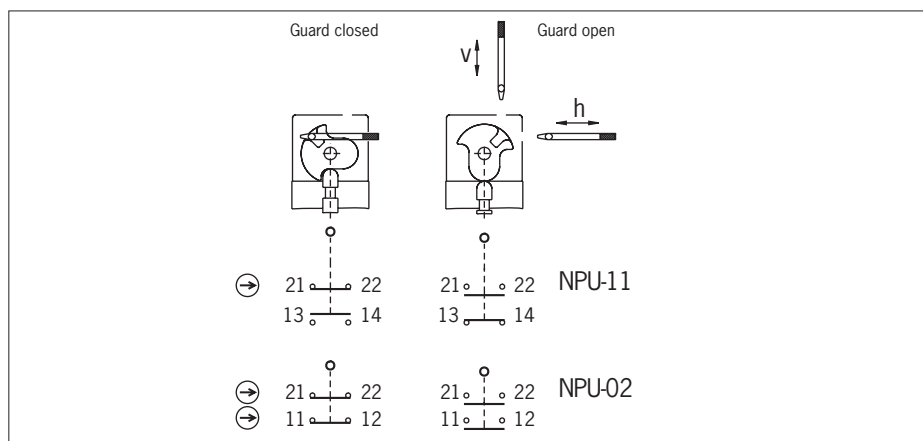

Fig. 4: Switching elements and switching functions
At least one contact (⊕) must be used. This signals the position of the guard (for terminal assignment, see Fig. 4).
3. Connect and tighten terminals with 0.5 Nm (for terminal assignment, see Fig. 4).